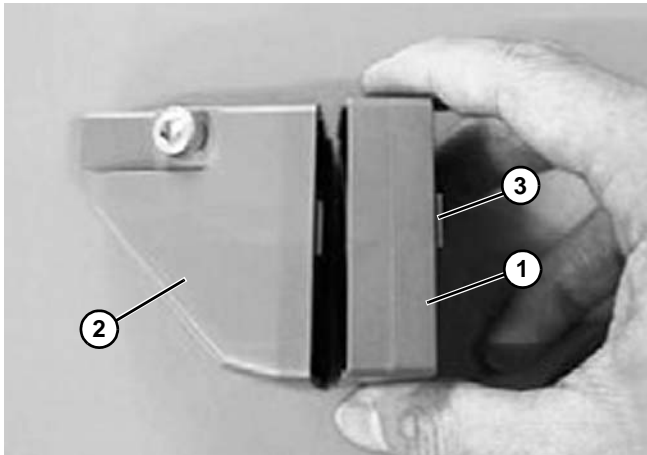

Figure 88
1. Attach the spacer (Figure 88, item 1) onto FGRF- 42x18V (Figure 88, item 2) and install correct length T-bolt (Figure 88, item 3).